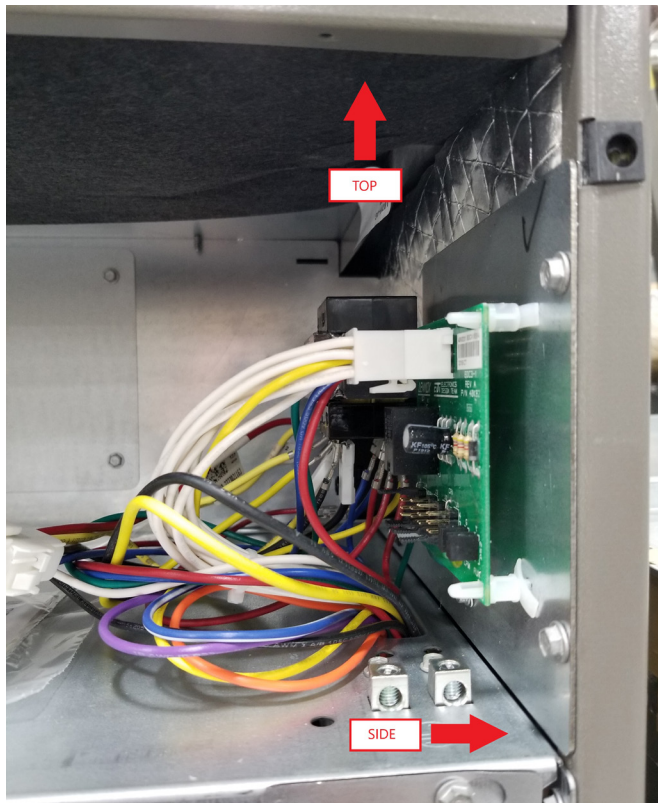

FIGURE 18. Electrical Connections (Upflow Configuration)
- 5 - Connect the suction and liquid lines to the evaporator coil. Take care to protect the cabinet and internal components as detailed in figure 18.